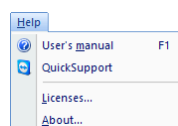

Figure 44 – Help menu
- **Help** – displaying the application version, installing licenses and browsing the electronic version of the user's manual (see Figure 44).